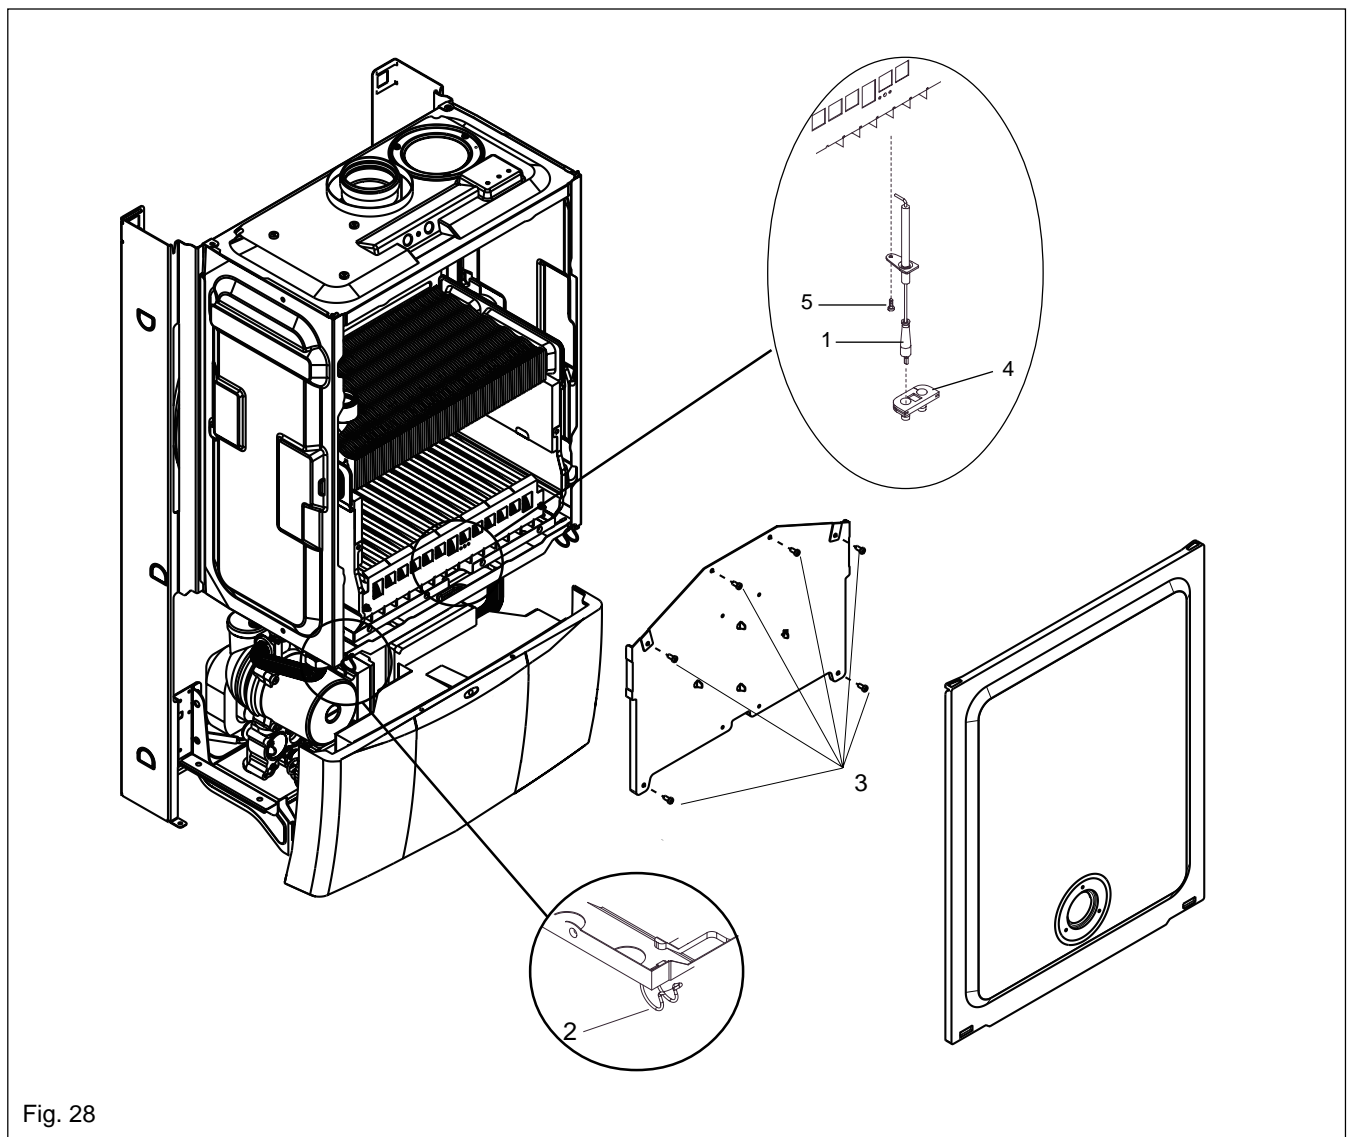

Fig. 28
6.16 FLUE FAN (see fig. 28 & 30)
Fig. 28: unclip and remove the air chamber cover, gently pull the cover towards you before lifting and disengaging (2). Locate and remove the six screws that secure the front combustion cover, then remove the cover (3).